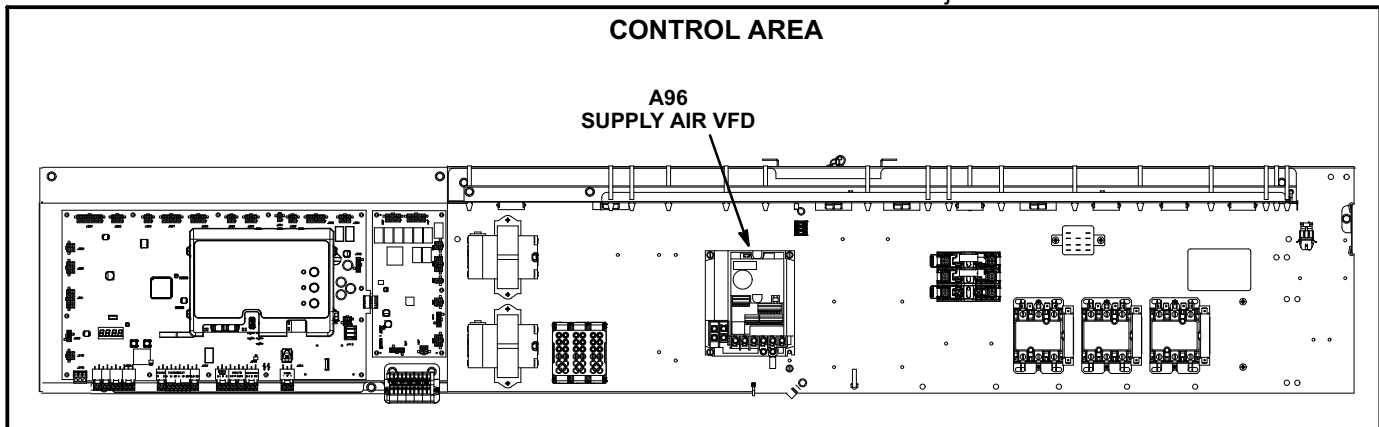

FIGURE 26
The supply air VFD (A96) is located in the control area. See figure 26.
4. Locate the A55 Unit Controller. Refer to figure 26.